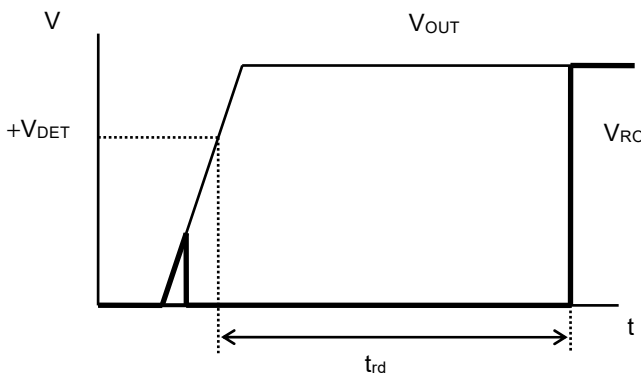

Figure 4 Release Delay Time
- *3. The time from when V_{OUT} exceeds $+V_{DET}$ to when the RO pin output inverts (Refer to **Figure 4**). This value changes according to the release delay time adjustment capacitor (C_{DLY}).